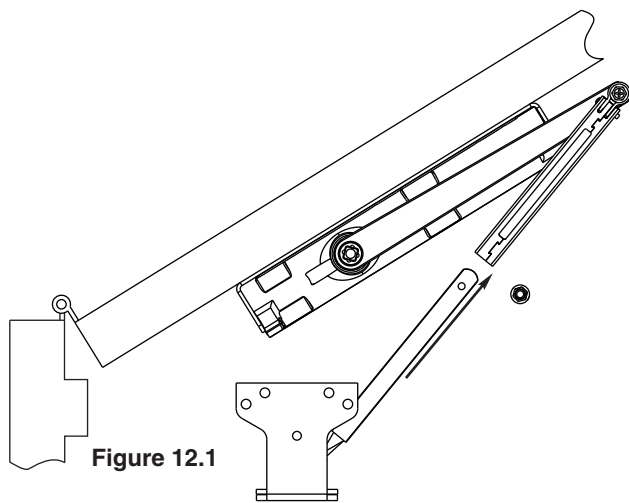

Figure 12.1
- Remove adjusting rod screw, open door slightly and slide rod into tube of main arm assembly (Figure 12.1).